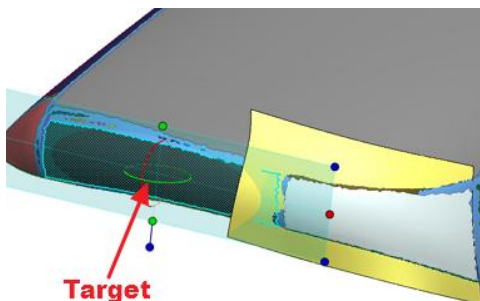

Figure 219
- Select the region shown in **Figure 219** as the Target **Regions/Poly-Faces**.